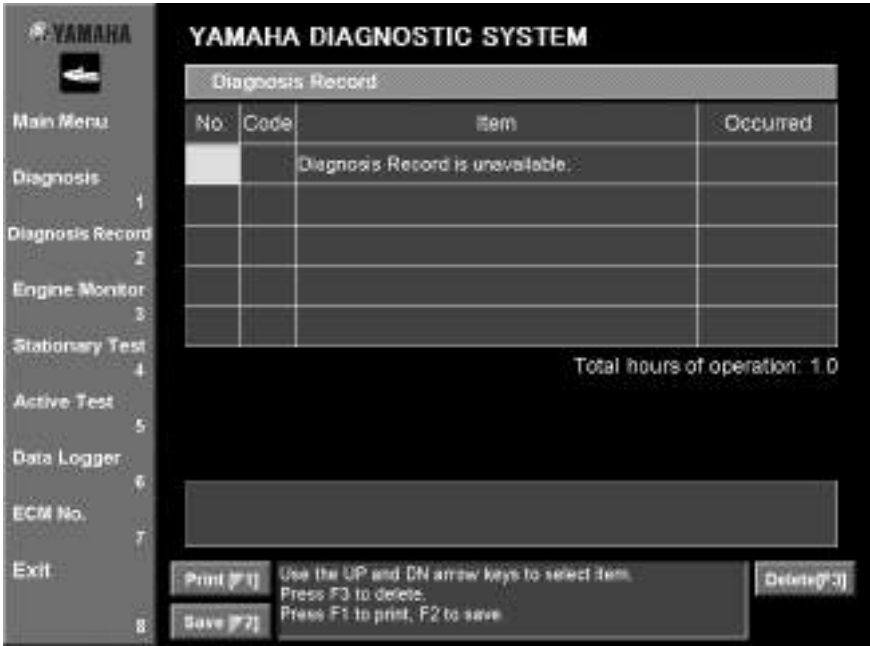
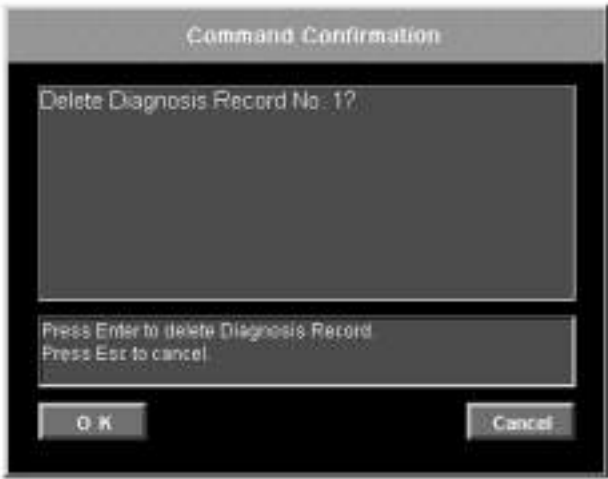

Fig. 33
Fig. 35
NOTE: When a Diagnosis record is not available, "Diagnosis Record is unavailable" is displayed. (Fig. 33)
2. Click the **Delete [F3]** button or press the F3 key on your keyboard. (See fig. 33.) A confirmation message appears. (Fig. 35)
- Click the **OK** button or press the Enter key on your keyboard. (Fig. 35) The selected item is deleted. To cancel deleting the item, click the **Cancel** button or press the Esc key on your keyboard.